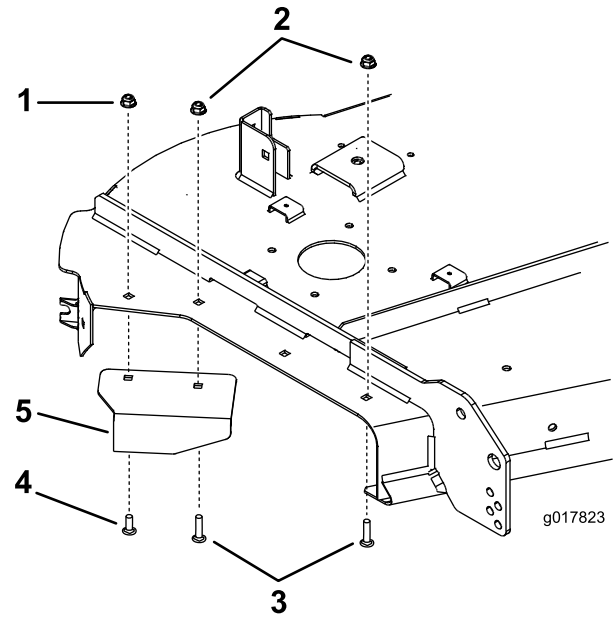

Figure 25
3. Install the new baffle with a carriage bolt (5/16 x 1 inch) and nut (5/16 inch) from the previously removed baffle (Figure 25). Use a new bolt (5/16 x 1-3/8 inches) and flange nut (5/16 inch) to secure 1 side of the baffle (Figure 25).
4. Install a carriage bolt and flange nut into the front hole shown in Figure 25.